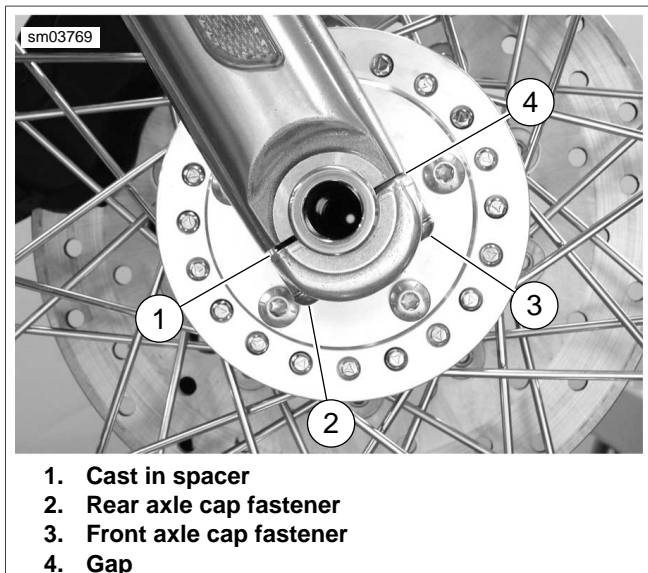

Figure 2-9. Axle Cap Installation
3. See Figure 2-9. Install slider cap with cast-in spacer (1) toward the rear of the vehicle. Do not tighten fasteners at this time.
5. Tighten rear axle cap fastener (2) to 10-14 ft-lbs (13.6-19.0 Nm), then tighten front axle cap fastener (3) to 10-14 ft-lbs (13.6-19.0 Nm).